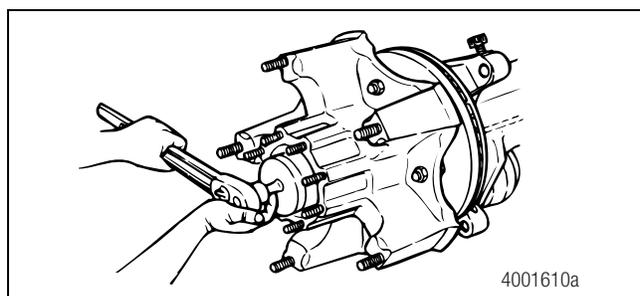

Figure 8.12
6. Remove the jam nut, washer and adjusting nut from the spindle. Figure 8.12.